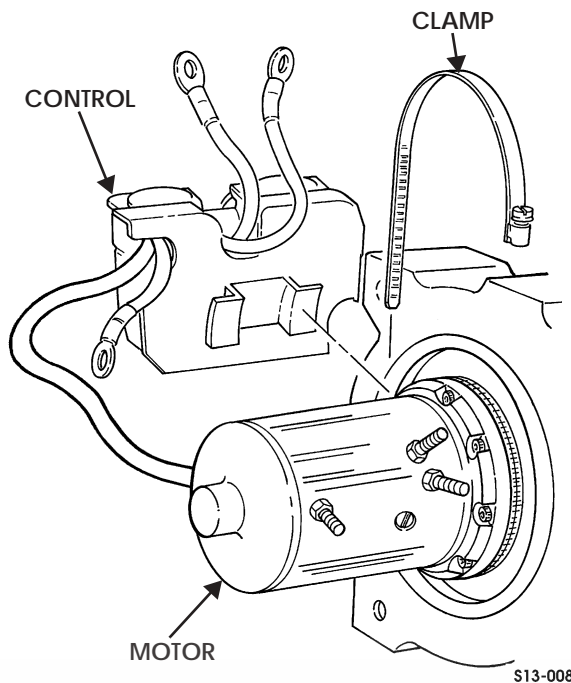

Figure 13-6: Control Unit
4. Loosen two clamps and remove control from motor (Figure 13-6).